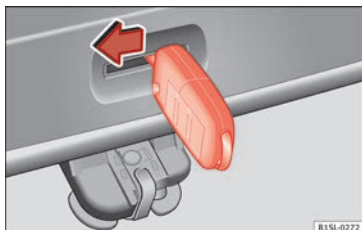

Fig. 7 From the luggage compartment: Emergency unlocking of the boot hatch.
- Insert the key shaft into the rear lid opening »» **Fig. 7** and press the release lever in the direction of the arrow to unlock the rear lid.